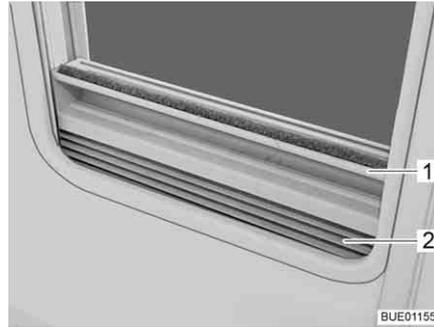

Fig. 59 Roman shade
- Grip the Roman shade (Fig. 59,2) in the middle of the holding bar (Fig. 59,1), pull it upwards and then release it at the desired height. The Roman shade will stay at this height.